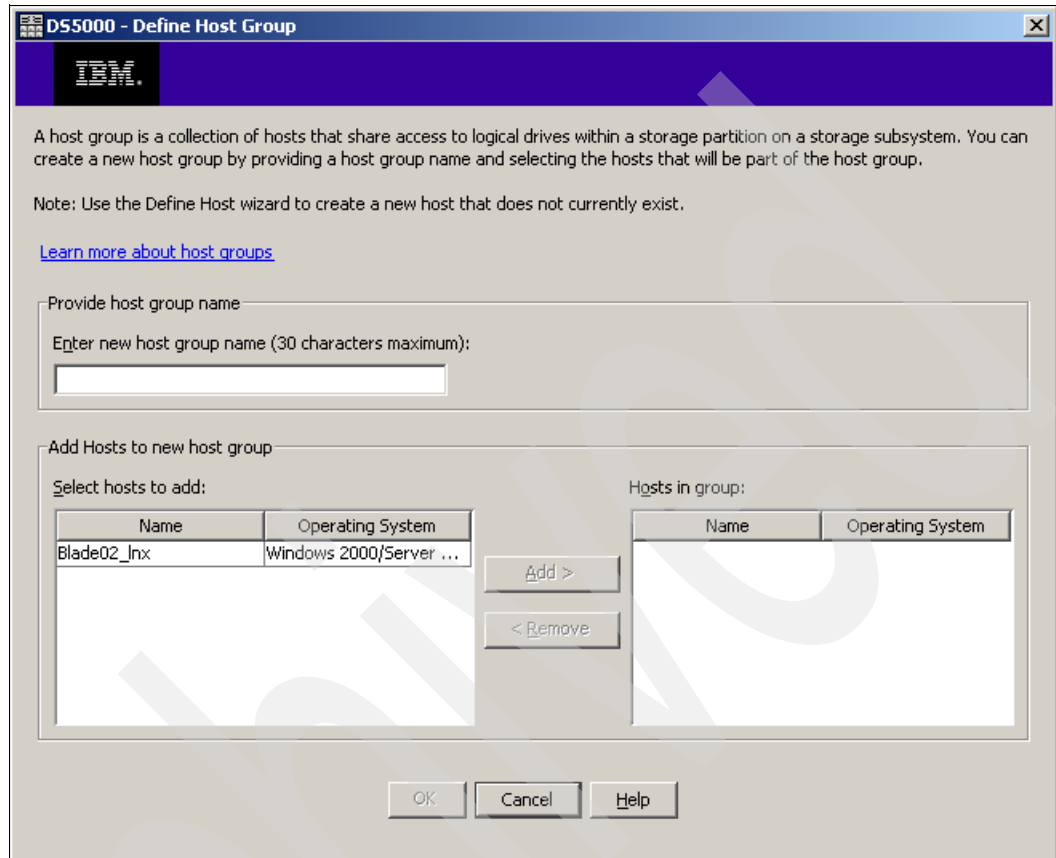

Figure 4-82 Define Host Group name
2. The Define Host Group window (shown in Figure 4-82) opens. Enter the name of the host group you want to add. Select every host you want to add to the group and click **Add**. When you are done, you can exit the dialog by clicking **OK**.